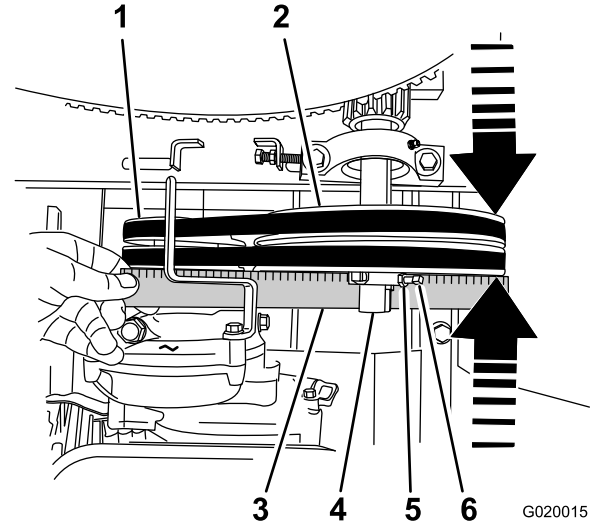

Figure 75
2. Place a straightedge across the face of the engine pulley and the idler pulley (Figure 75).
- B. Loosen the locknuts and setscrews that secure the idler pulley to the idler shaft (Figure 75).
- C. Using a soft-face mallet, tap the idler pulley forward or backward along the idler shaft until the engine pulley and the idler pulley are aligned to the straight edge (Figure 75).
- D. Tighten the setscrews and locknuts that secure the idler pulley to the idler shaft (Figure 75).